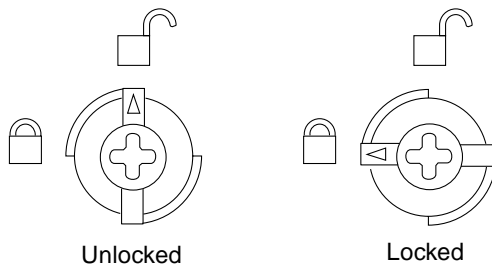

FIGURE 7-7 Quarter-Turn Access Slots
2. Use a Phillips No. 1 screwdriver to turn each quarter-turn access slot on the power supply to the unlocked position (FIGURE 7-7).
7. **Use a Phillips No. 1 screwdriver to turn each quarter-turn access slot to the locked position (FIGURE 7-7).**